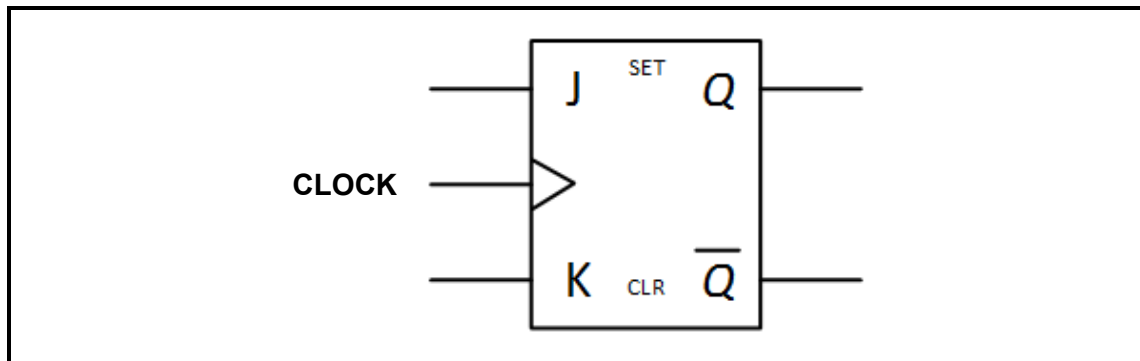

FIGURE 4.5: LOGIC SYMBOL OF J-K FLIP-FLOP
4.5 FIGURE 4.5 below represents the logic symbol of a J-K flip-flop.